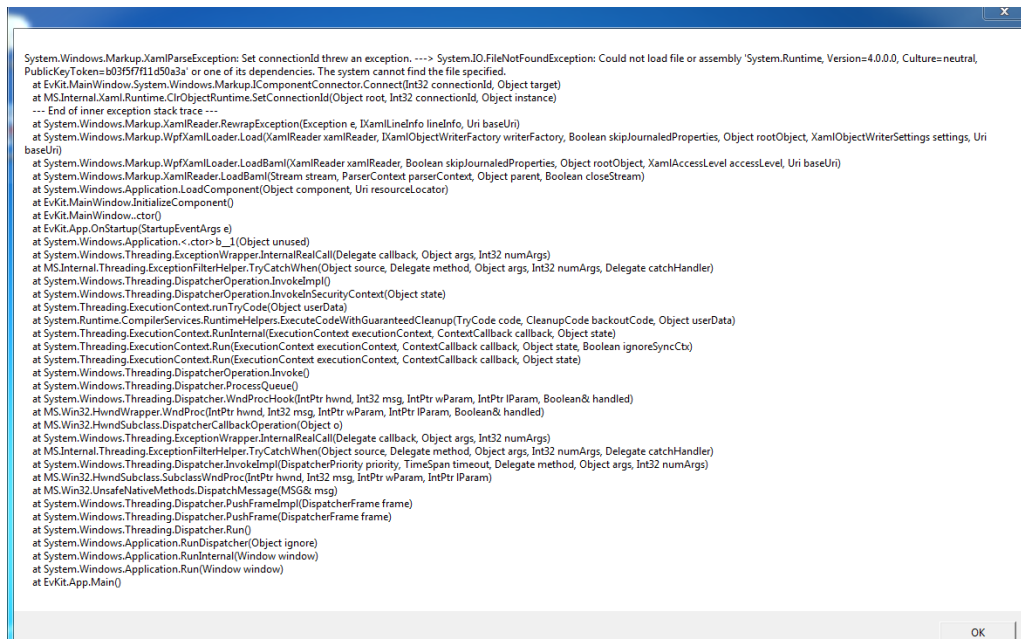

Figure 74. A Windows error message which indicates that Windows .NET installation is out-of-date.
- If an error message shown in Figure 74 appears, the Windows .NET installation is not up to date. Please run Windows update or install the required .Net version manually to resolve the issue.